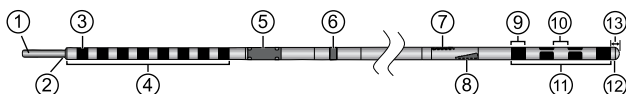

Figure 2. Model B33015 directional lead.
- The Model B33015 lead has wide (1.5 mm) electrode spacing, or the spacing between each level of electrodes (Figure 2).